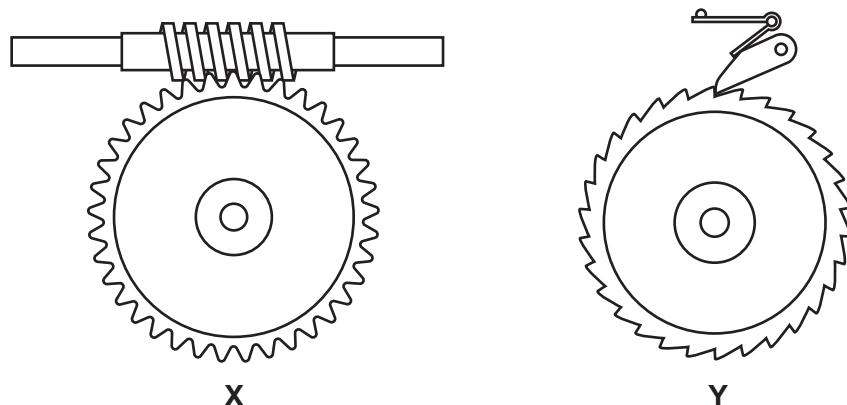

Fig. 11.4
- (c) Fig. 11.4 shows two methods that can be used to prevent reverse rotation in a mechanism.